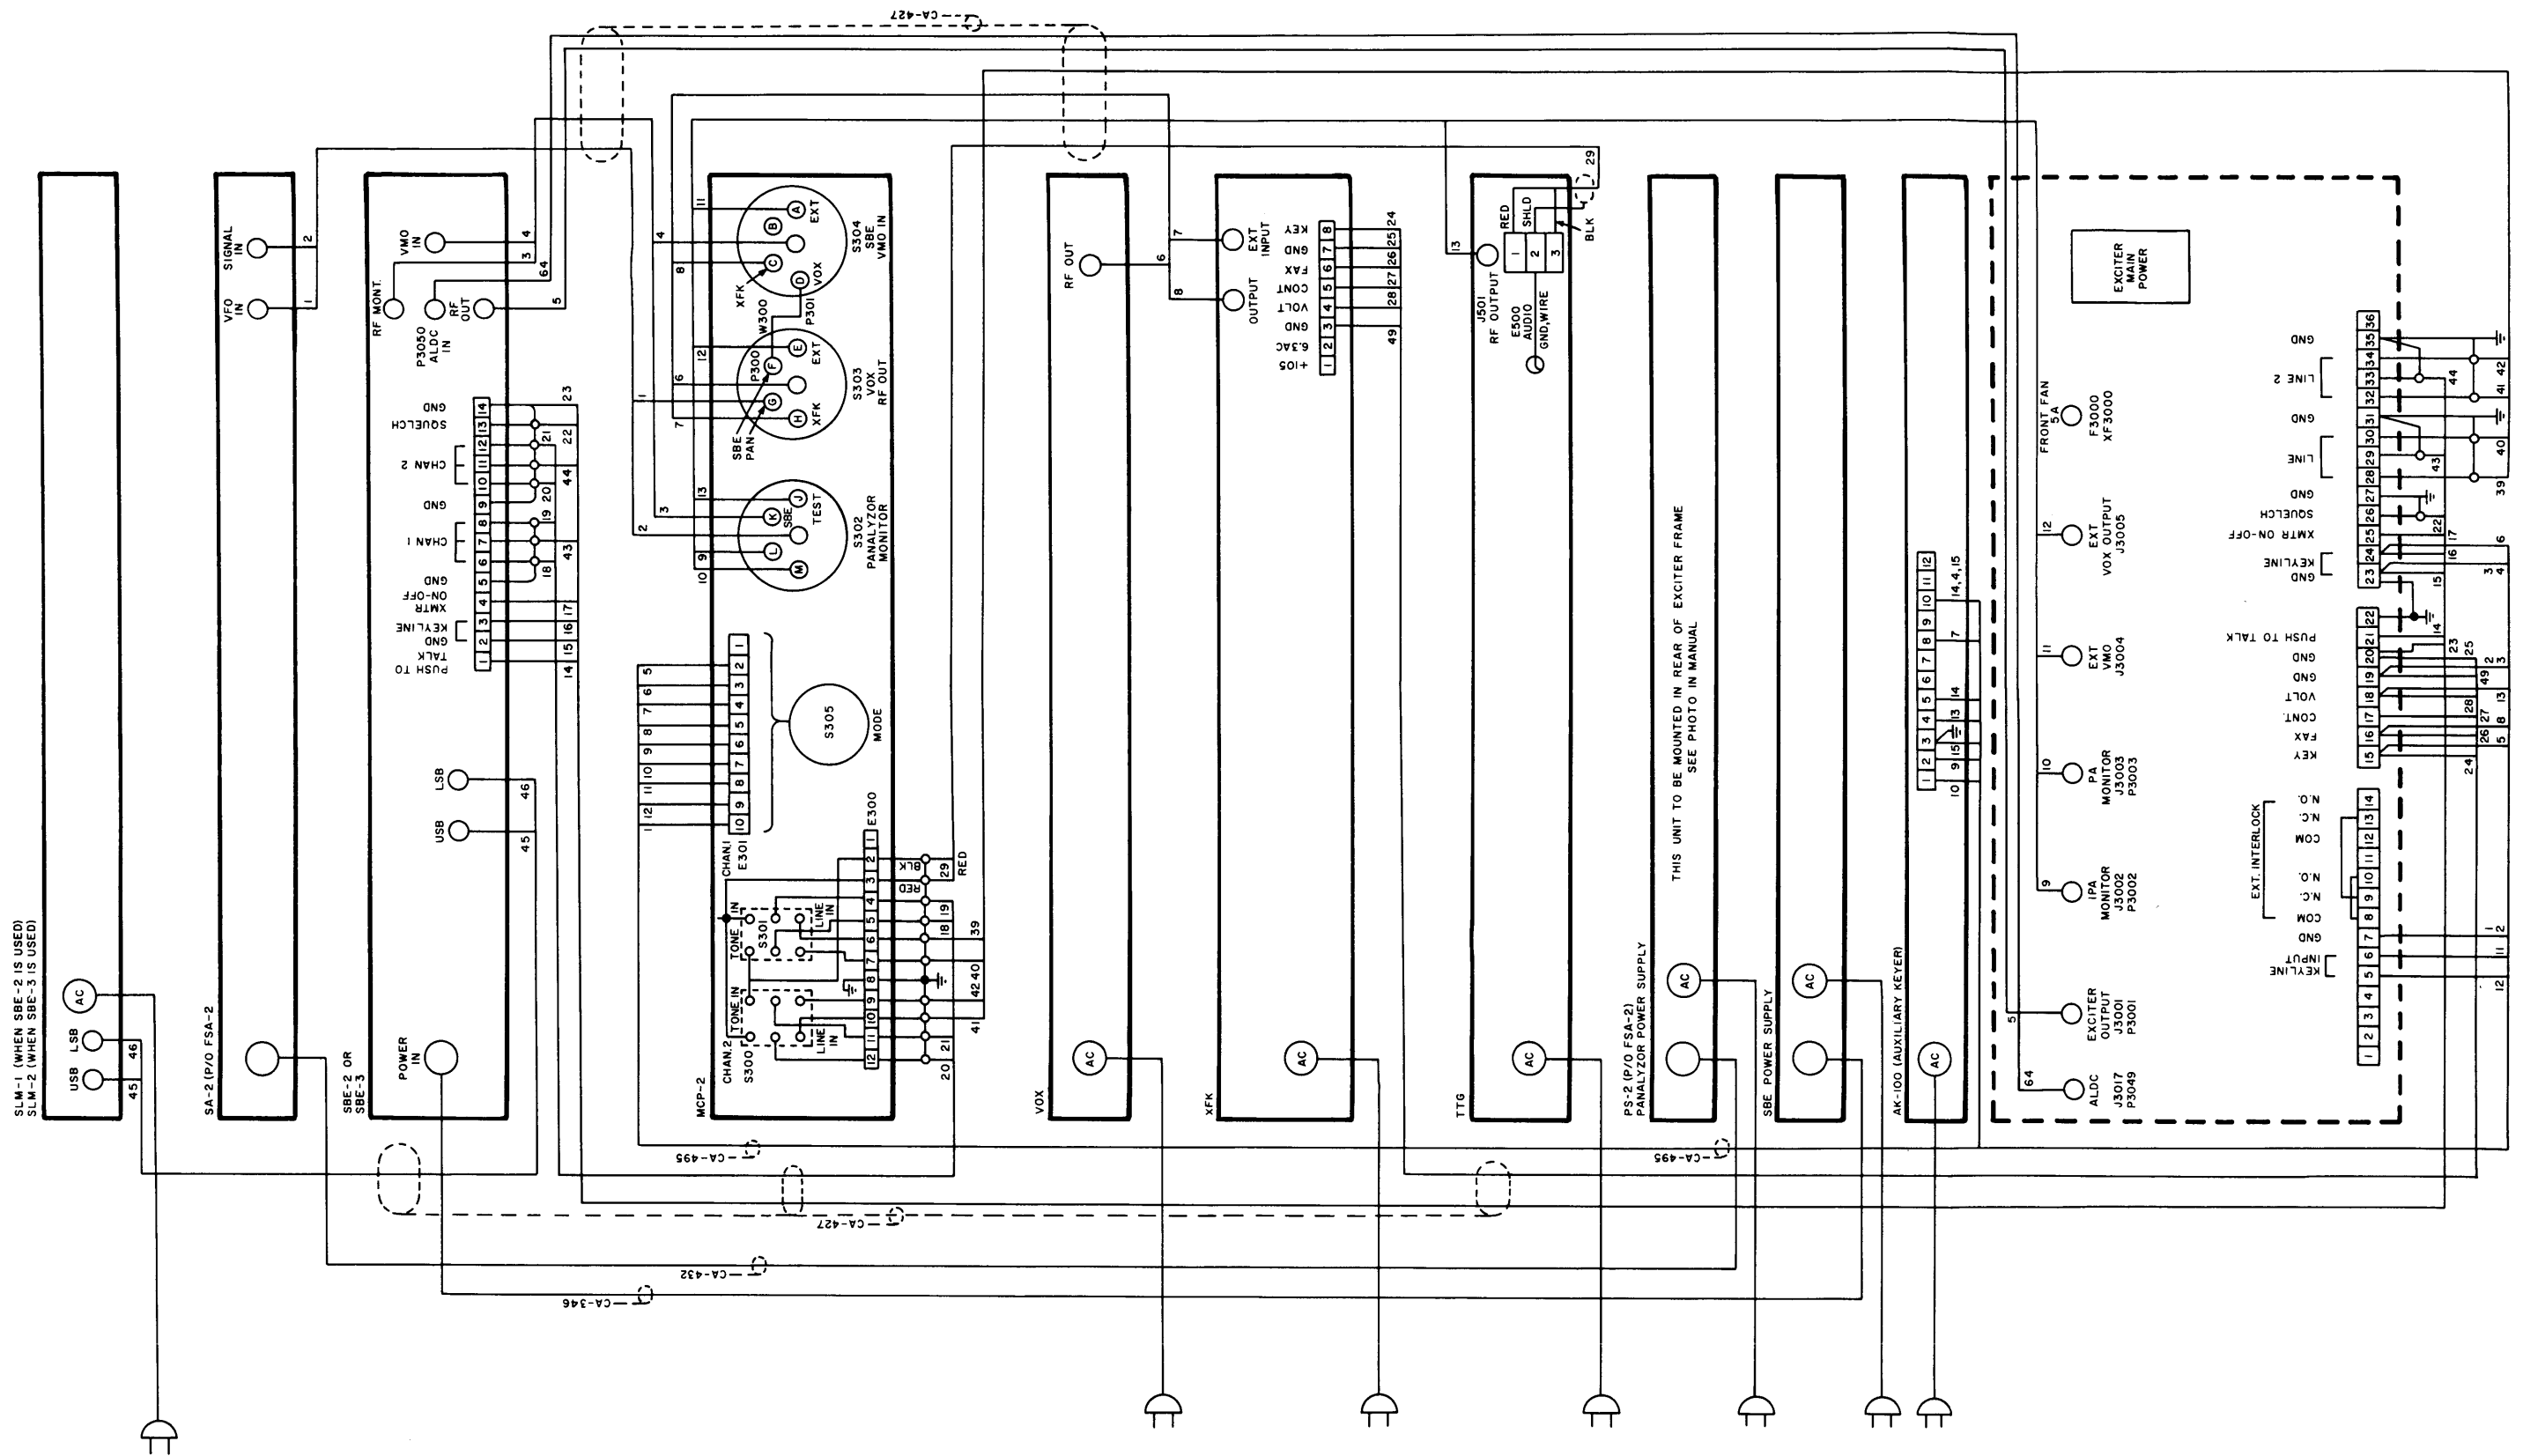

Figure II-7-4-8. Wiring Diagram, Auxiliary Frame Chassis for Non-Synthesized GPT-10K Equipped With MCP-2 Unit
f. AUXILIARY FRAME CHASSIS AX-180 (See figure II-7-4-8). - Refer to figure I-2-3 in companion manual (Volume I). The units described in preceding paragraphs a through e are removed from the chassis, and electrical components only are considered, figure II-7-4-8 shows the end result. The chassis is energized by single-phase 230 volts from phase 2, 3 of incoming three-phase power. The main electrical components are filters, circuit breaker, sola regulating transformer, eight 115-volt outlets, front fan and indicating lamp. Their use is conventional and requires no explanation.